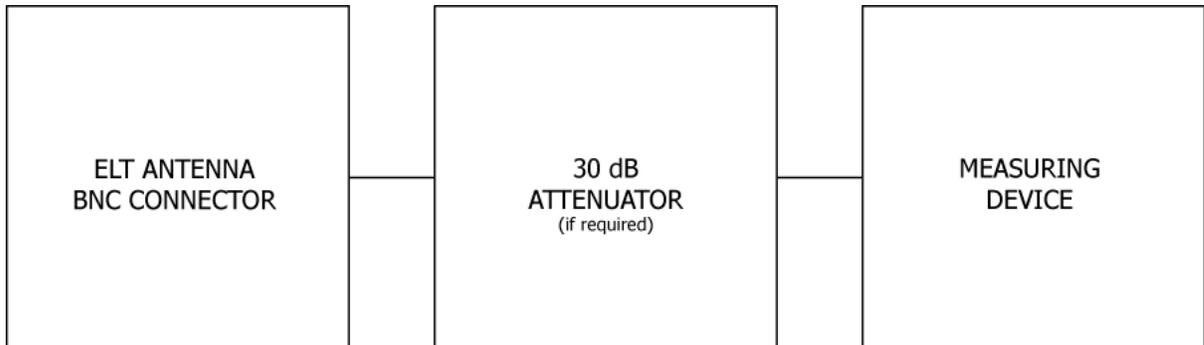

Figure 10 Performance Tests Equipment Setup
- 3) Ensure that adequate attenuation rated for 406 MHz is installed between the ELT antenna output and the measurement equipment to prevent damaging input circuitry, if required. At a minimum, the attenuator should be rated at 30 dB, and 5 watts for a 1/2-second duration as shown in Figure 10 Performance Tests Equipment Setup.